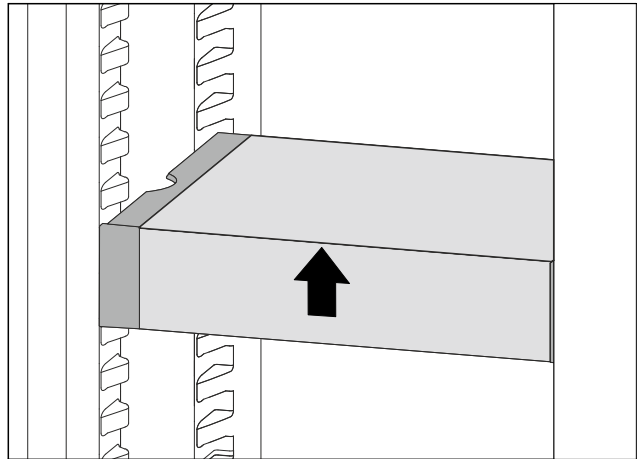

*Fig. 108*
- ▶ Place the VarioSafe drawer behind the stoppers on desired rib *Fig. 108 (1)* or *Fig. 108 (2)*.